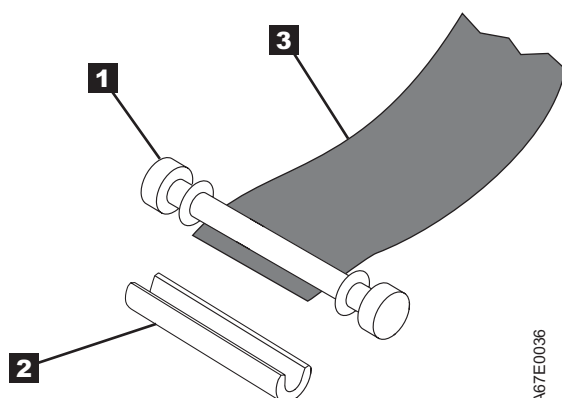

Figure 5-14. Removing the C-clip from the leader pin. Use your fingers to push the C-clip from the leader pin.
5. On the leader pin (**1** in Figure 5-14), locate the open side of the C-clip **2** . The C-clip is a small black part that secures the tape **3** to the pin.